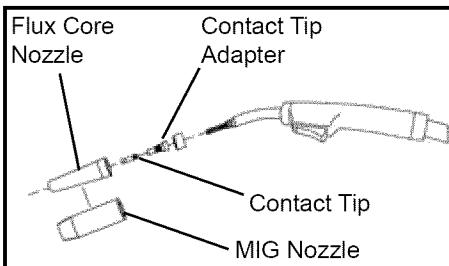

Fig. 3
- Remove the nozzle and contact tip from the end of the torch assembly. (Fig. 3)
2.21 Install the appropriate nozzle on the torch assembly (Fig 3).